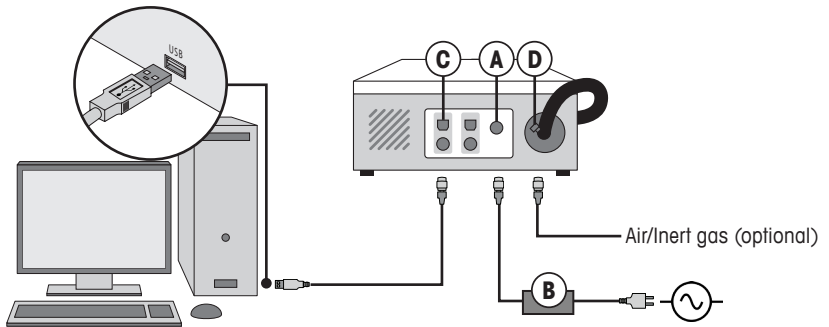

Figure 5. Instrument connections: (A) Power input (B) Switching AC Adapter; (C) USB communications; (D) Air/inert gas (if applicable)
1. Connect the pin-terminated end of the country-specific, auto-switching AC Power Adapter (B) to the Power connection (A) at the back of the ParticleTrack G400 base unit (Figure 5).
3. Connect the purge tubing (6 mm [0.23 inch], supplied with Purge Controller) to the purge fitting on the rear of the ParticleTrack G400 base unit, near the probe conduit connection (D in Figure 5).